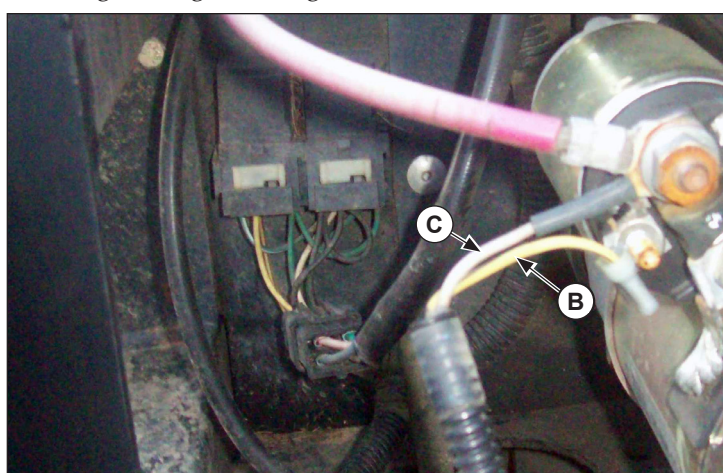

Figure 3. Separate Yellow and Red Wires on Original Kohler Engine.
2. Many of the four pin equipped Exmark/Toro units also utilize a separate yellow (B) & red (C) starter solenoid engagement wire in Figure 3. These wires will need to be retained and installed on the new EFI engine starter solenoid for proper starter operation. Figure 3 shows the original engine configuration.